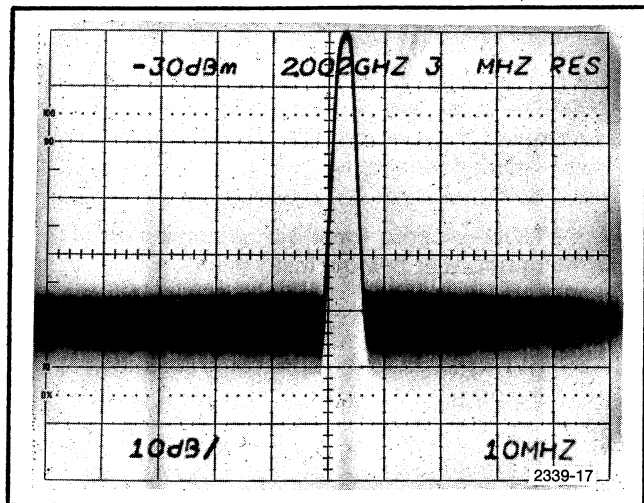

Fig. 3-2. Initial display of calibrator signal.
c. Connect the CAL OUT to the RF IN, using the coaxial cable and adapter supplied with the instrument. This should produce a display similar to Fig. 3-2; it may be necessary to adjust the TUNING slightly to center the display on screen (the display is the calibrator signal at 2.0 GHz).